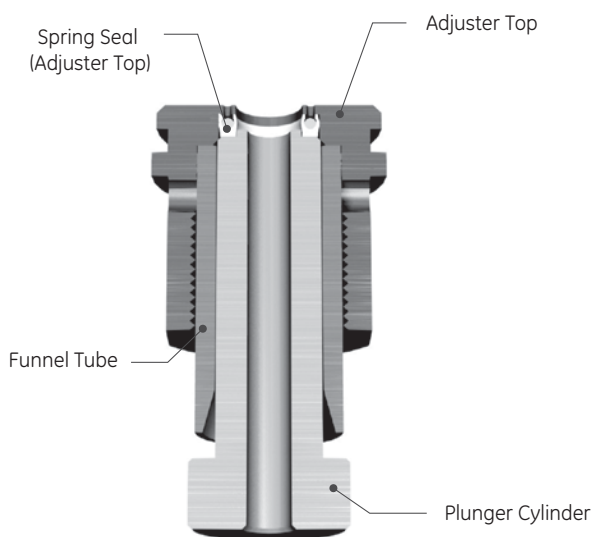

Figure 47: Plunger Cylinder
- viii. Push down on Plunger cylinder to insert Spring Seal (Adjuster Top) into Adjuster Top as shown in Figure 47.